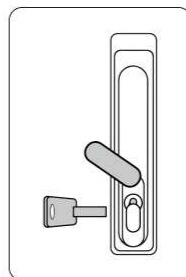

Figure.3
3. Insert the door key and turn it clockwise to eject the handle. See the Figure.3.